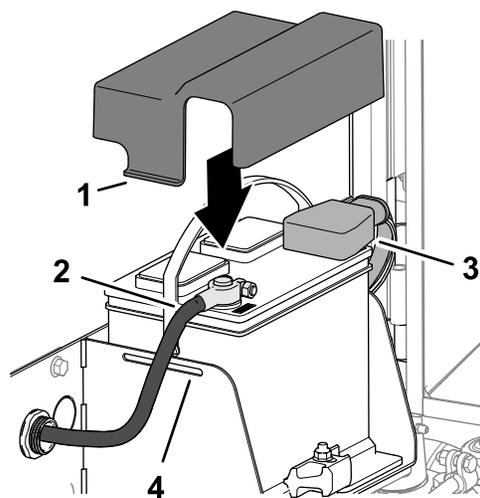

Figure 98
1. Install the positive battery cable (red) to the positive (+) battery post (Figure 98).